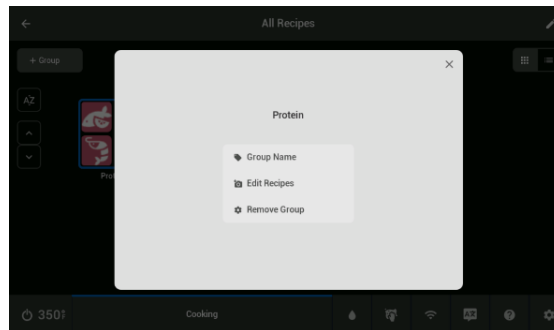

Figure 32 - Edit Group Attributes
The screen will change to **Figure 32**.
- Click on **Remove Group** on screen **Figure 32 - Edit Group Attributes** to remove the group
- Select **Edit Recipes** on screen **Figure 32 - Edit Group Attributes**